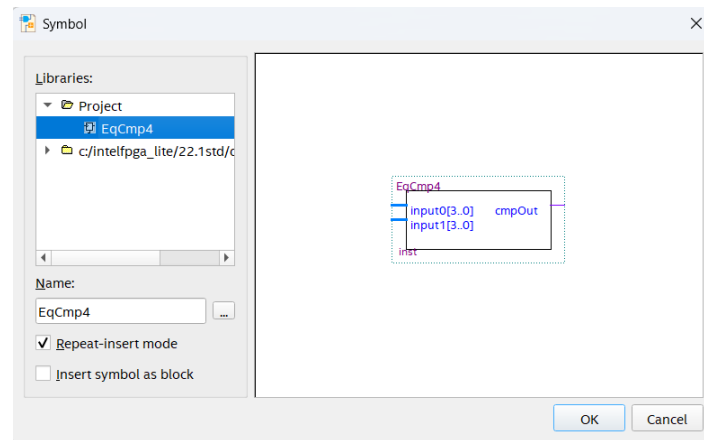
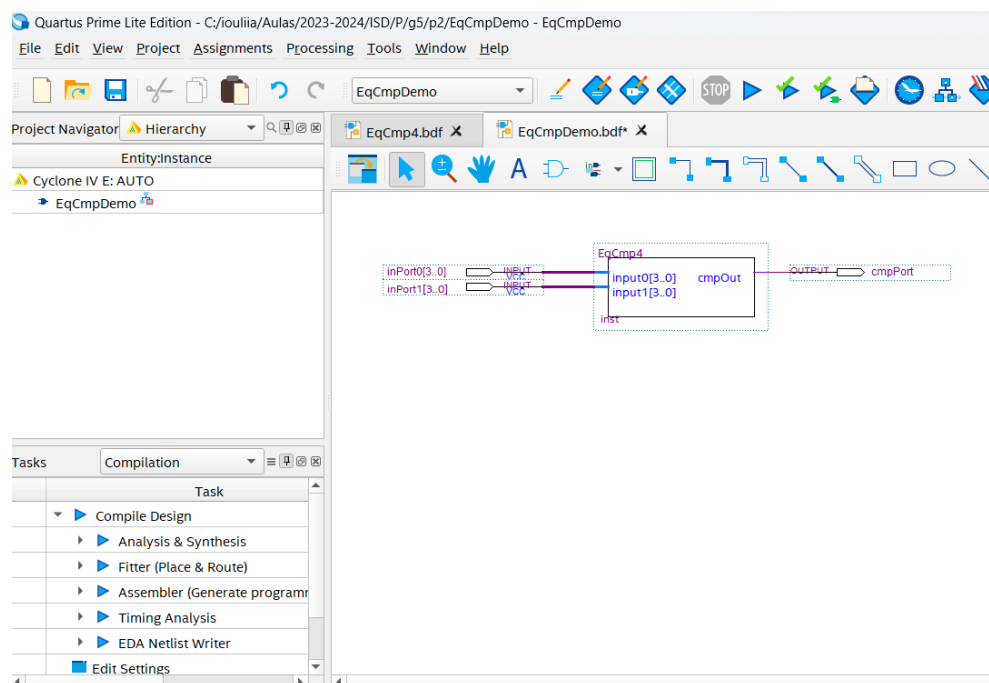

Figure 29 - Instantiation in a schematic diagram of the module “EqCmp4”.
Figure 30 - Interconnection of the “EqCmp4” module and the input and output ports and identification of the various circuit elements in the “EqCmpDemo” module.
4. Create a new file for a schematic diagram called “EqCmpDemo.bdf” to instantiate the equality comparator built in the previous point (Figure 29) and link its ports as illustrated in Figure 30.